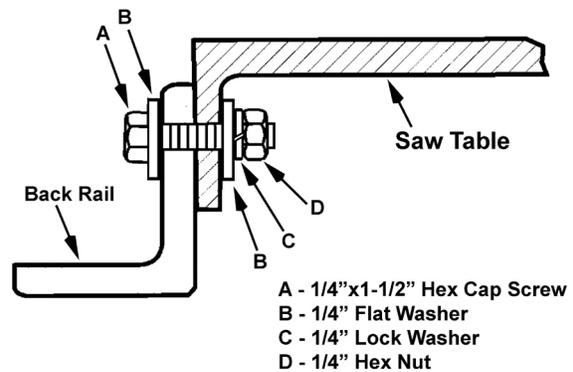

Figure 6
4. Secure the back rail at A and D (in Figure 4) to each *extension wing* with a 1/4 x 1-1/2 hex cap screw, two 1/4" flat washers, a 1/4" lock washer, and a 1/4" hex nut as shown in Figure 6.